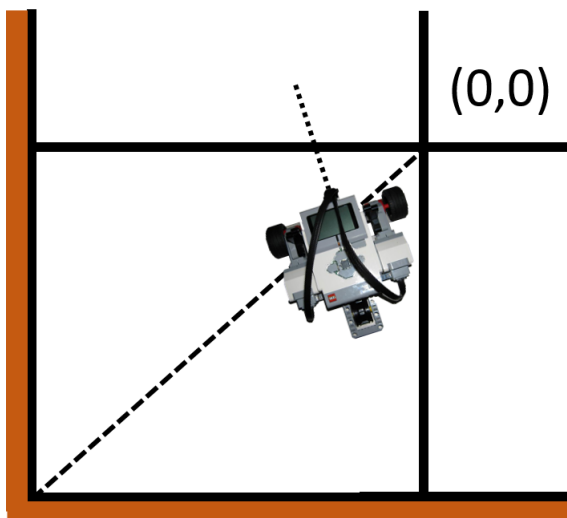
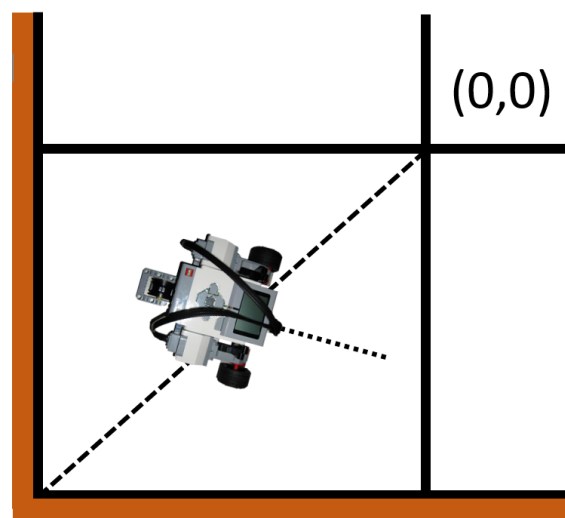

Figure 1. Robot's Starting Orientation A.
Figure 2. Robot's Starting Orientation B.
As shown in **Figure 1**, the robot is placed along the 45° line (thick dotted) inside the bottom-left tile of the 4x4 field grid. The **brown-colored** walls represent wooden walls used for the **ultrasonic localization**. Please note that the robot could be placed in **ANY ORIENTATION** and **POSITION** along this 45° line. For example, **Figure 2** shows another orientation and position of the robot's starting position compared to that in **Figure 1**.
After the measurement is complete, the robot should then move to the (0,0) point as shown in **Figure 1** and **Figure 2**. Once **light localization** is performed at this point, two error quantities are measured by the TA: the **Euclidean distance error** ϵ between the robot's actual position (X_F, Y_F) and the (0,0) point, and the **orientation error** with respect to the 0° axis.
1. Place the robot in a tile corner along the 45° line (**Figure 1**), where two walls are present.
- 1. Do I need to implement my robot's localization routines using the same 0° axis shown in Figure 1 and Figure 2 (that is, along +y axis)?**